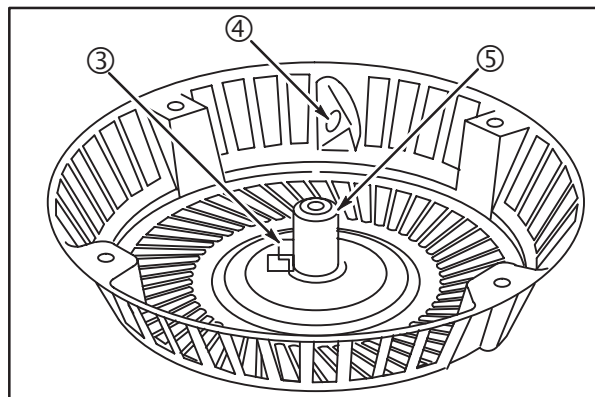

Fig. 59
Inspect starter housing for wear or sharp edges at rope eyelet (4), center pivot post (5), and inner spring anchor (3) tab, Fig. 59. Replace housing if worn or damaged.